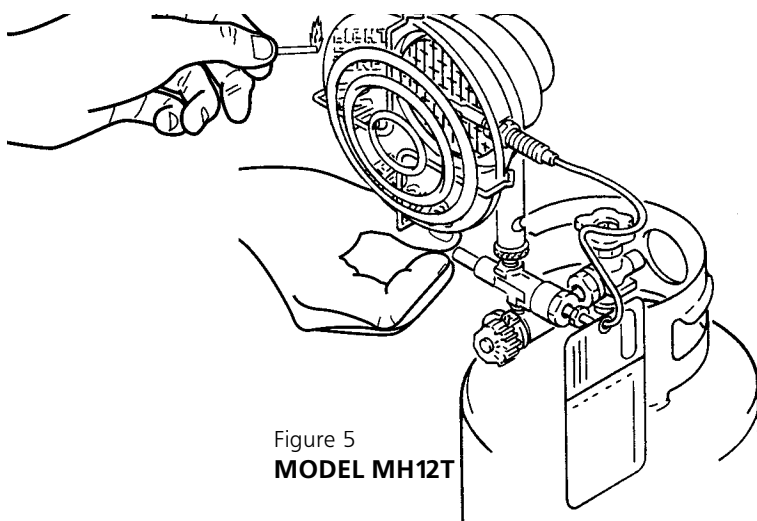

Figure 5
- D. To light MH12T, place a lit match across the mesh screen where you see "light here" on reflector. (See Fig. 5) THEN push in valve button on Safety Shutoff Valve. After the heater is lit, continue to hold valve button in for 30 seconds, then release the button slowly. **CAUTION: DO NOT PUSH IN VALVE BUTTON BEFORE INSERTING LIT MATCH.**
- B. When shutting off the heater, turn the regulator knob on the heater to "OFF" (clockwise). (See Figure 5 and 5a)